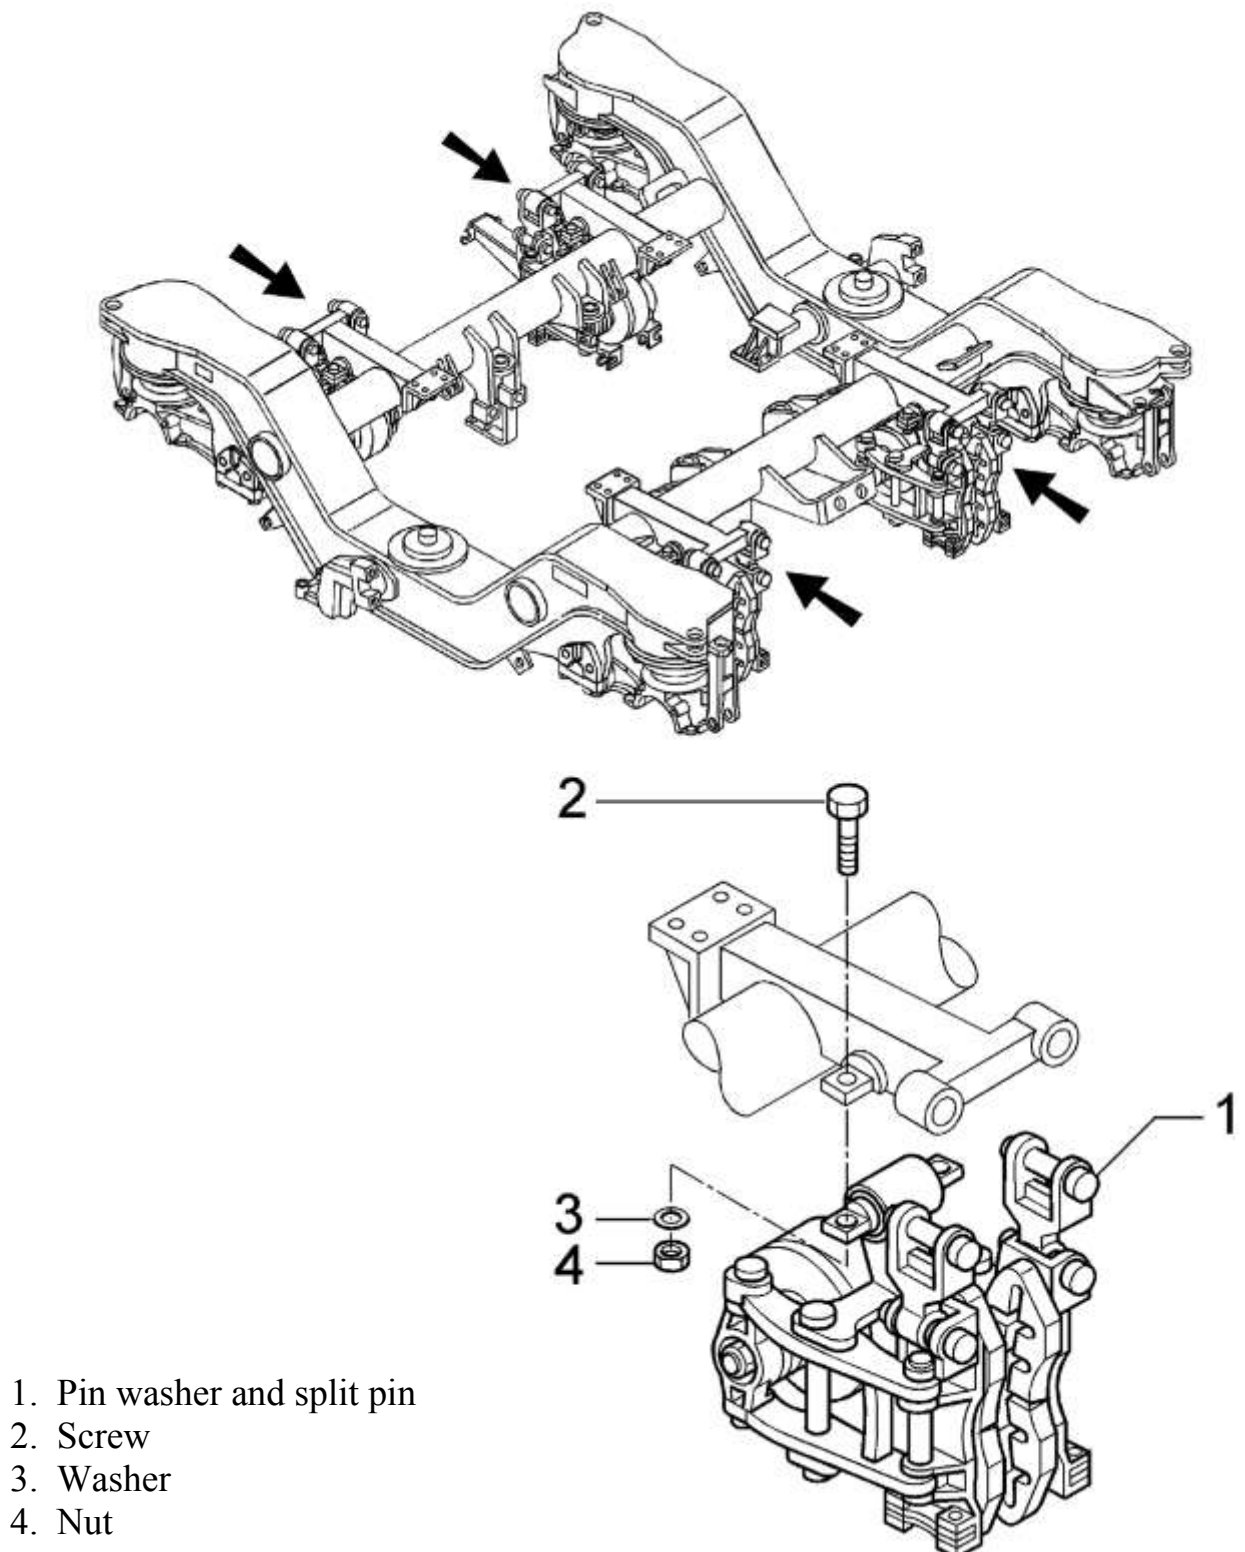

FIG. 4.42 Brake Groups Removal
Remove the four brake units (FIG. 4-42) extracting the pin, washer and split pin (1), the screws (2), the washers (3) and the nuts (4). Pay attention not to let the units fall down.